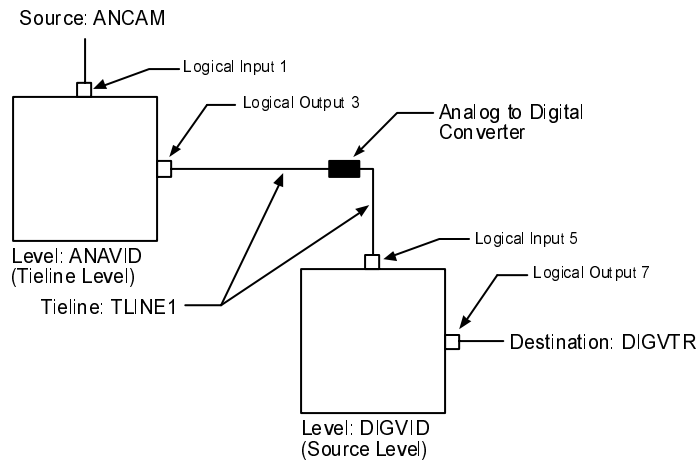

Figure 31 Configuring a Source to use a Tieline
- a) Select the **Source Level**. For the example shown in Figure 31, “DIGVID” would be used.
- b) Select the **Tieline Level**. For the example shown in Figure 31, “ANAVID” would be used.
- c) Enter the **Tieline Level Input**. For the example shown in Figure 31, “1” would be used.